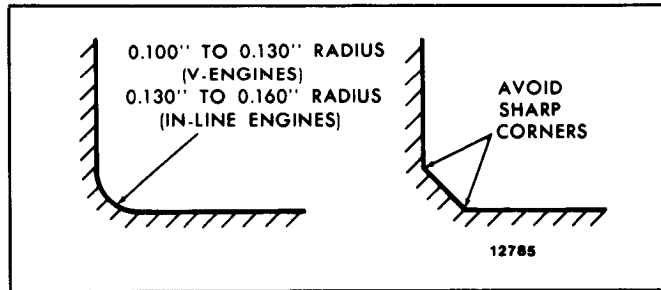

Fig. 10 - Crankshaft Journal Fillets
- All journal fillets on the In-line crankshafts must have a .130" to .160" radius and on the 6V and 8V crankshafts, a .100" to .130" radius between the crank cheek and the journal and must not have any sharp grind marks (Fig. 10). The fillet must blend smoothly into the journal and the crank cheek and must be free of scratches. The radius may be checked with a fillet gage.